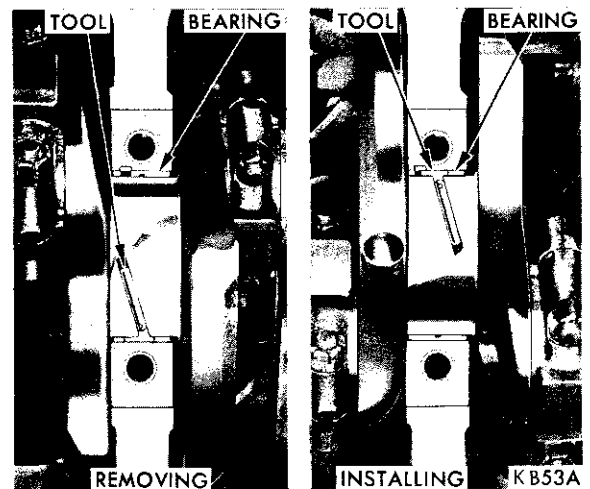

Fig. 47—Removing or Installing Main Bearing Upper Shell
(2) Remove the bearing caps one at a time. Remove the upper half of bearing by inserting Tool C-3059 (Fig. 47) into the oil hole of crankshaft.
(3) Slowly rotate crankshaft clockwise, forcing out upper half of bearing.
(1) Start bearing in place, and insert Tool C-3059 into the oil hole of the crankshaft (Fig. 47).
(2) Slowly rotate the crankshaft counter-clockwise sliding the bearing into position. Remove Tool C-3059.